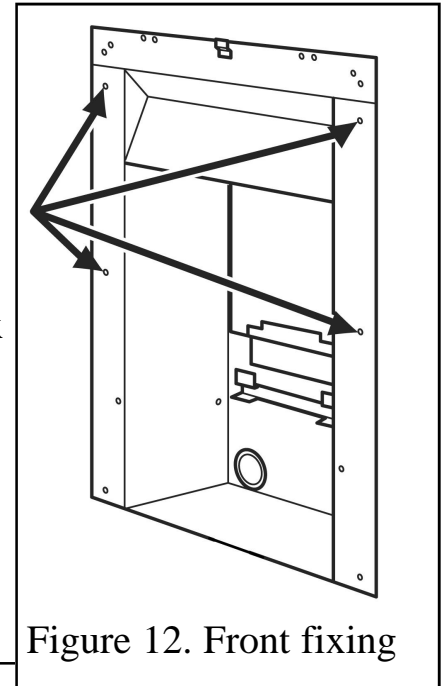

Figure 12. Front fixing
3. Mark the fireplace front surround through the four fixing holes in the side flanges of the hotbox (See figure 12).